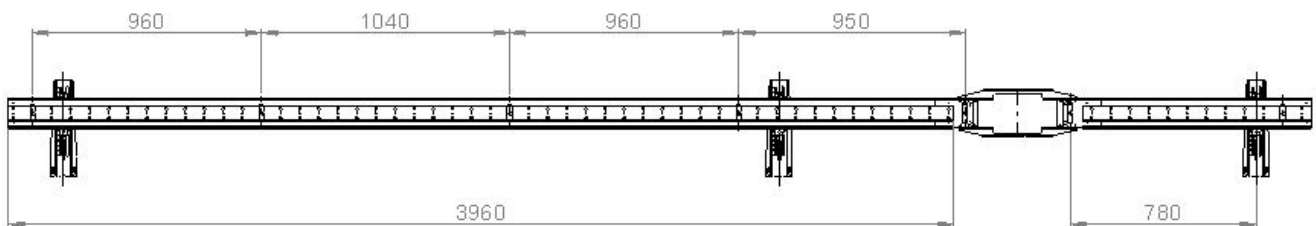

Fig. 58: Distances between hanger clamps 0831 in ProShell 128 Support Profile System
- The distances of the hanger clamps are selected as in Fig. 58